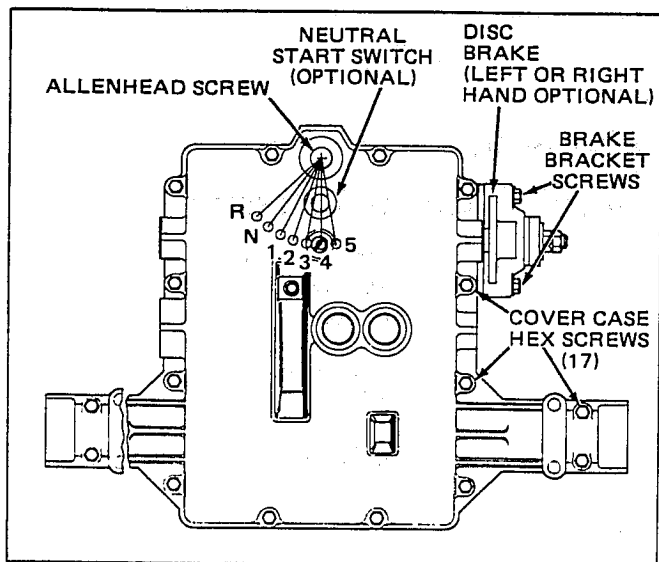

Figure 3-20
3. If installed, (O.E.M. Option) remove neutral start switch. See Figure 3-20.
1. Remove 17 Hex screws that hold cover to case. Figure 3-20.
3. Remove two brake bracket screws (Figure 3-20) and remove brake assembly.